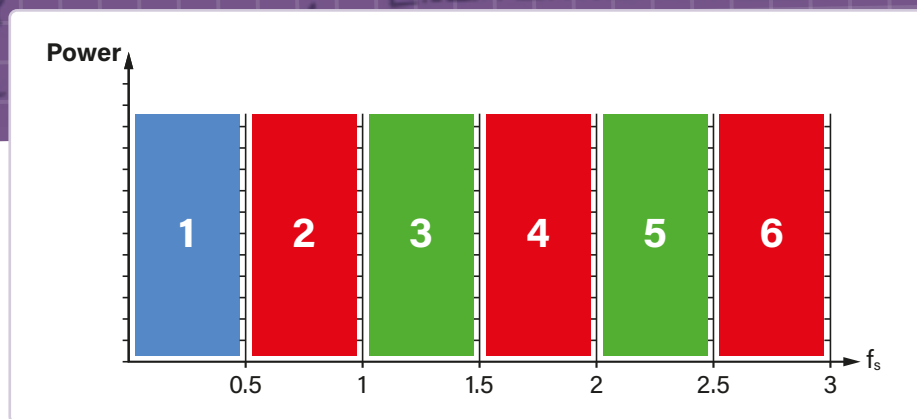

Figure 2: Nyquist zones 1 to 6, zone 1 = "normal range", zones 2, 4, 6 = inverting ranges, zones 3 and 5 = non-inverting zones.
The frequency range from 0 Hz (DC) to half the sampling frequency ( $f_s$ ) is called Nyquist zone 1 (**Figure 2**). This zone is the "normal" operating range for a sampling system. Nyquist zone 2 extends from  $0.5 f_s$  to  $f_s$ . These zones then continue theoretically infinitely at  $0.5 f_s$  intervals. The Nyquist zones with even numbers have a special characteristic: Within these zones, an inversion of the frequency spectrum takes place.